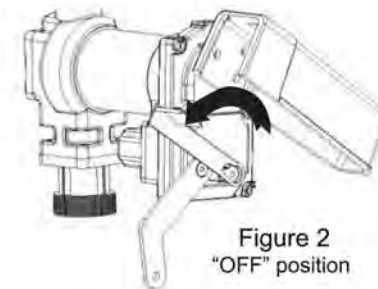

Figure 2
2. Screw the inlet flange (with suction pipe) into the tank bung; seal threads liquid tight with appropriate thread sealant. (Figure 2)
6. Move switch lever to the "OFF" position (Figure 2) to turn off the pump.